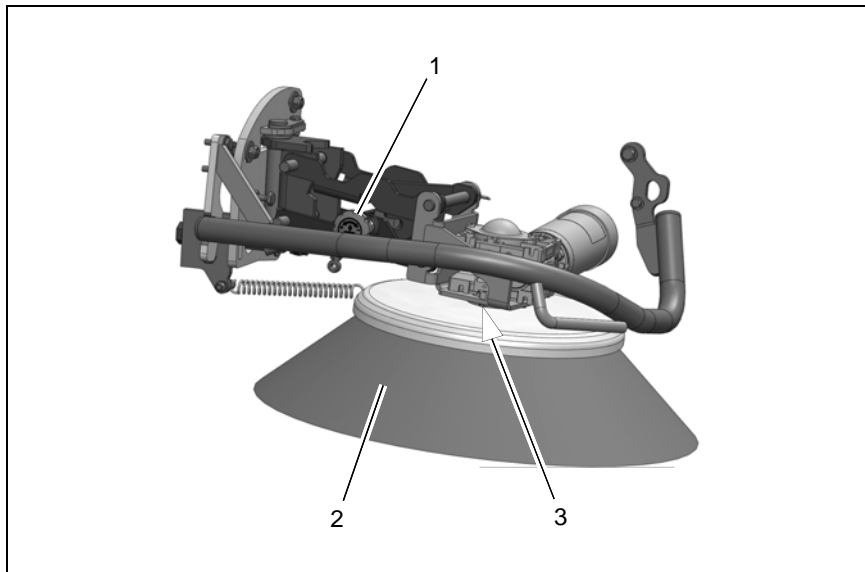

Fig.27
Check the side brushes (Fig. 27/2) every week for signs of wear. In the event of wear or after the side brushes have been changed, proceed as follows to complete the necessary adjustments:
2. Adjust the contact surface of the side brush (Fig. 27/2) using the adjusting bolt (Fig. 27/1). The contact surface of the side brush should be approx.  $\frac{2}{3}$  of the brush circumference.
2. Loosen the screws and washers on the catch (Fig. 27/3) and remove the side brush (Fig. 27/2).